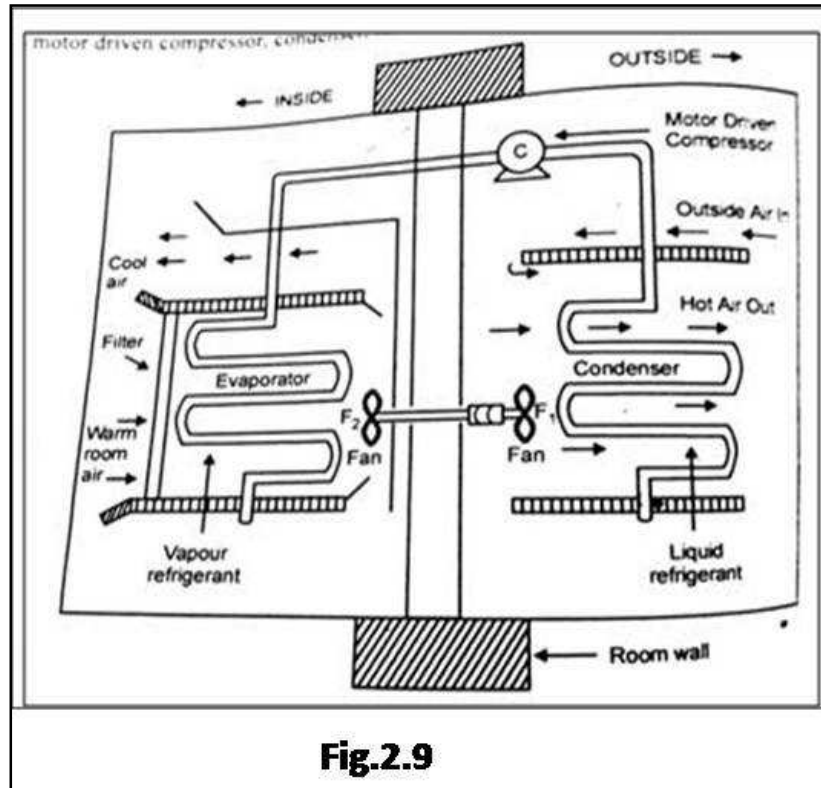

Fig.2.9
It consists of two units (1) indoor unit (2) outdoor unit.[Fig.2.9] An indoor unit consists of an evaporator, fan, air filter, control panel, trays etc. The outdoor unit consists of a motor driven compressor, condenser, fan, trays, etc.